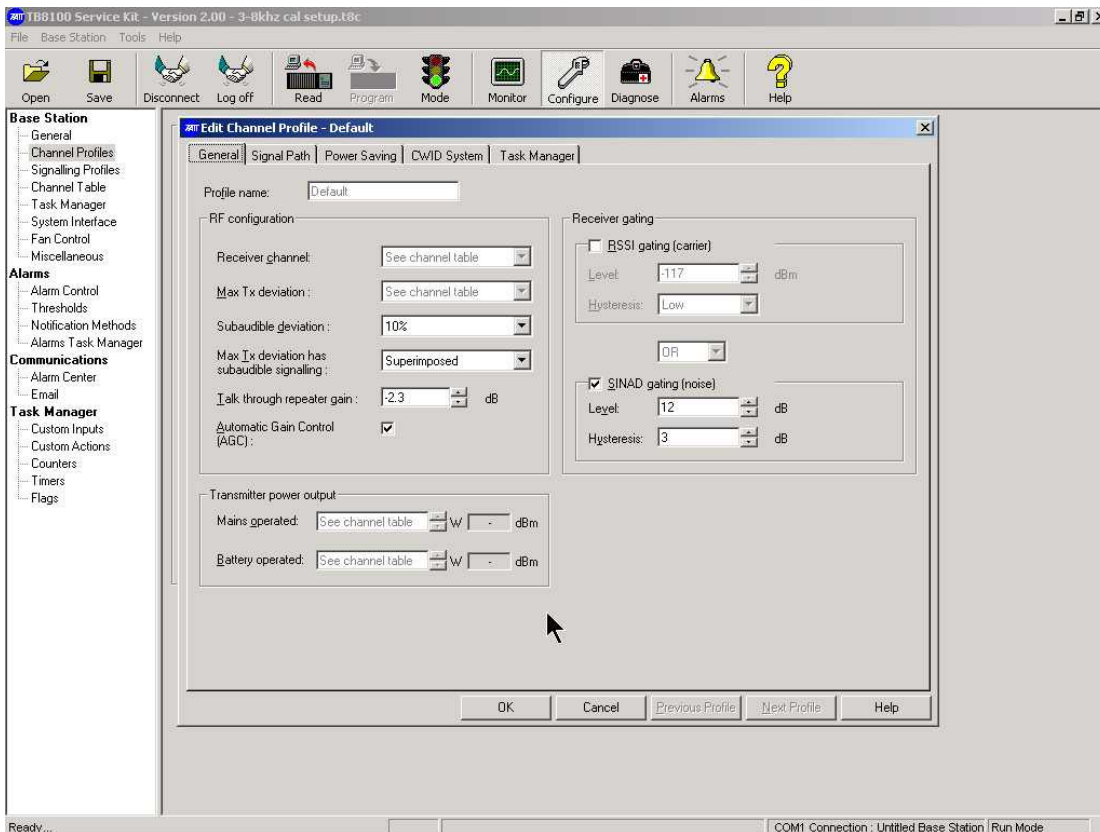
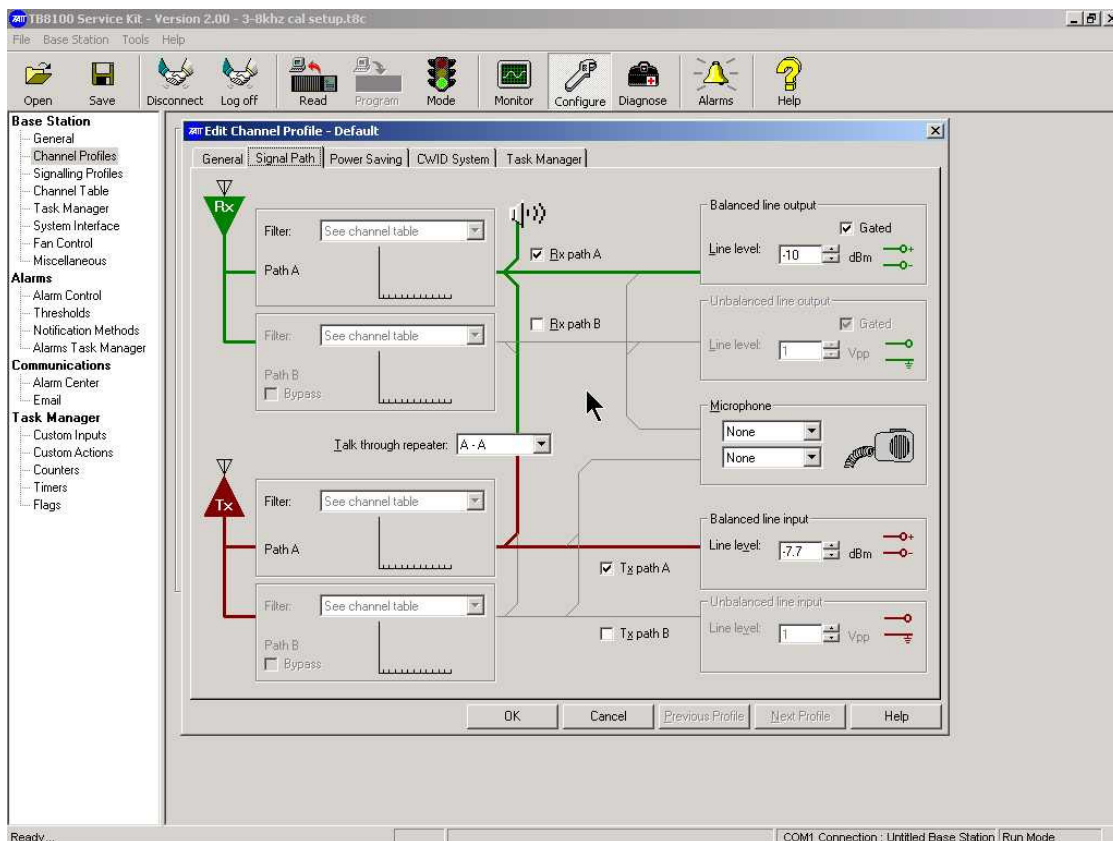

Fig. 1 - Configure/Channel Profiles/General page
Fig. 2 - Configure/Channel Profiles/Signal Path page
14. The 2 sections of the SK that are relevant to the maximum deviation are the **Configure/Channel Profiles/General** (see Fig. 1) and also **Configure/Channel Profiles/Signal Path** (Fig. 2).